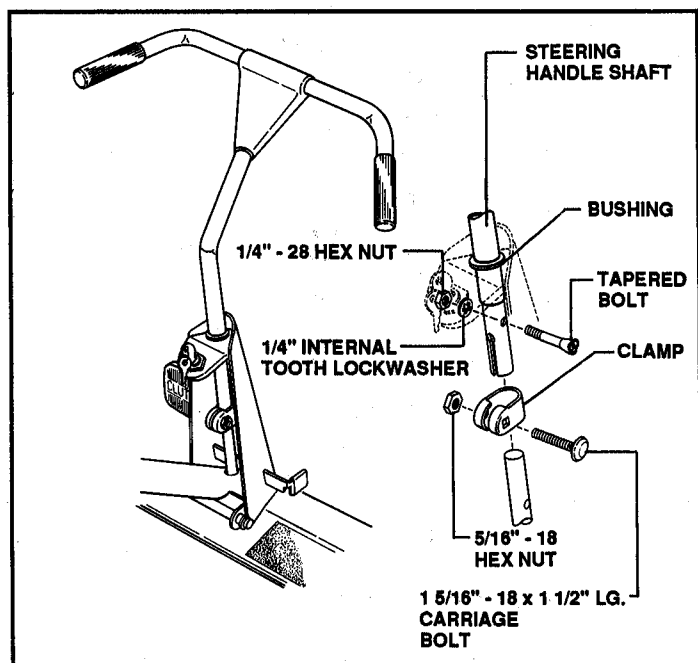

FIGURE 5.4
- A. Stand mower on rear bumpers. Remove nut and drive tapered bolt(s) out of handle and shaft. See Figure 5.4.